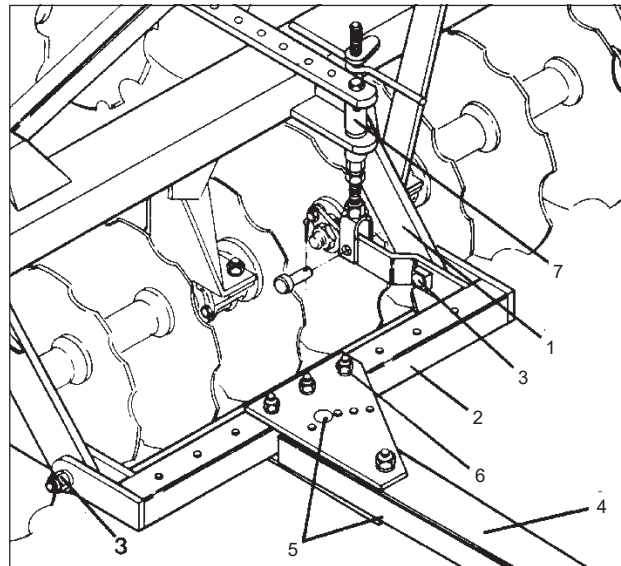

FIGURE 09
18 - When the harrow has tires, put the handle latch header item 7 on the cross bar item 2 and front frame item 1, **as show in Figure 09.**